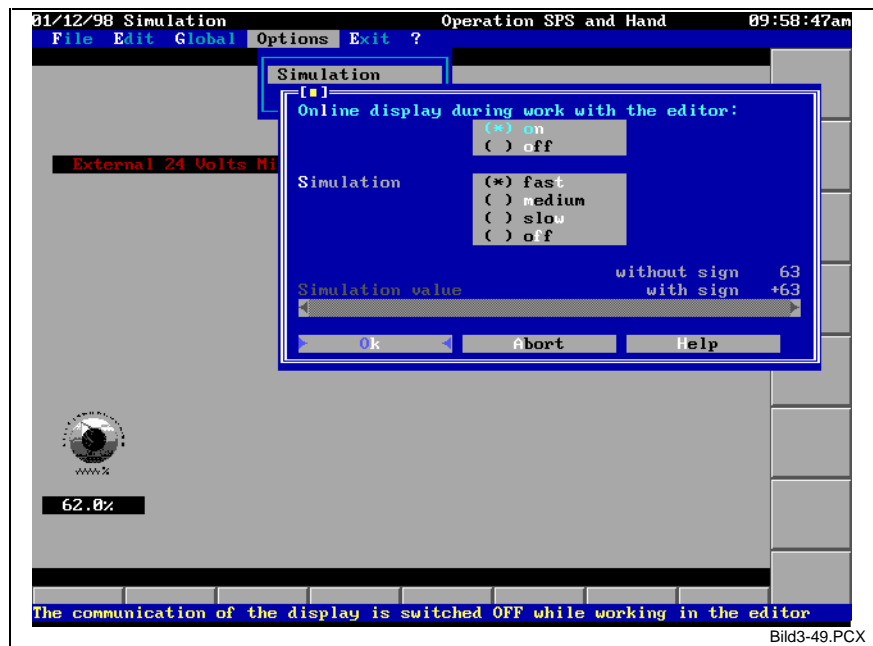

Fig. 3-49: Selections for simulation
**Peculiarities** See Fig. 3-49.